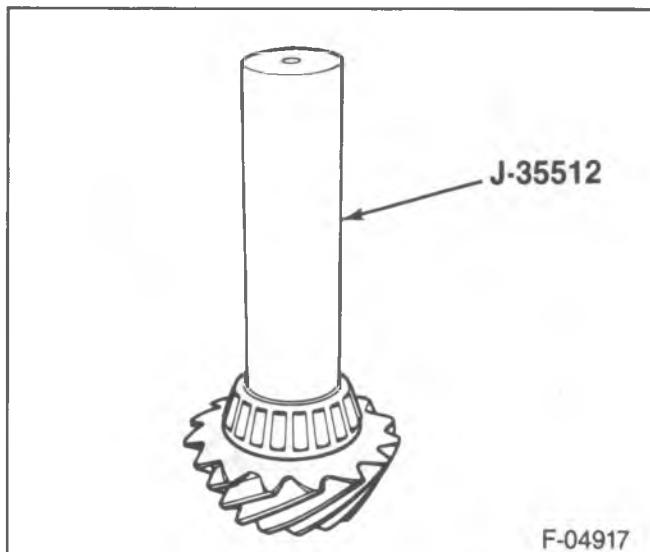
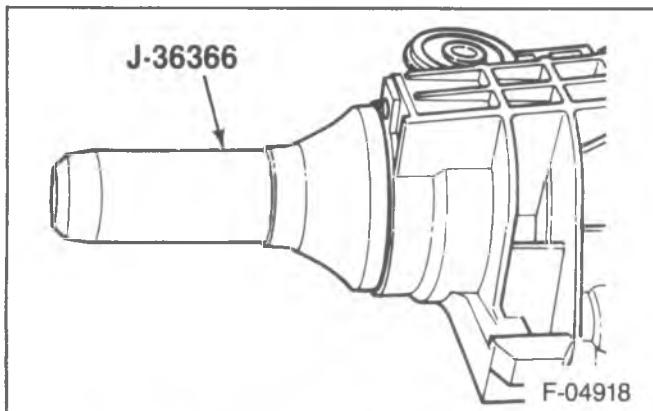

Figure 100—Installing the Inner Pinion Bearing and Shim
Figure 101—Installing the Pinion Seal
- 8. Bearing (39) onto the pinion gear (37) using J-35512 (K-1-2) or J-36614 (K-3) (figure 100).
- 9. New spacer (40) onto the pinion gear (37).
- 10. Bearing (41) into the case.
- 11. Seal (43) into the case using J-36366 (figure 101).
- 12. Deflector (43), flange (44), washer (45) and nut (46).
- Tighten nut (46) until no end play is detectable while holding the flange (44) with J-8614.